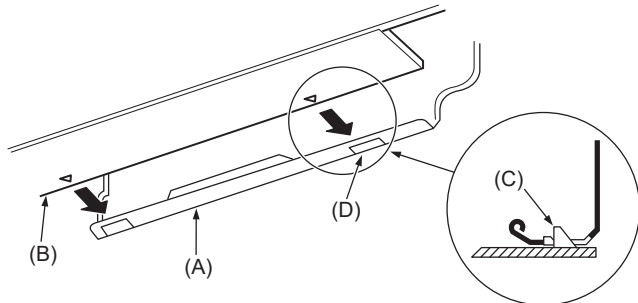

Fig. 3-15
3. While inserting the refrigerant piping and drain hose into the wall penetration hole (penetration sleeve), hang the top of the indoor unit to the mount board (1).
5. Fasten by pushing the bottom part of the indoor unit onto the mount board (1). (Fig. 3-15)
* Check that the knobs on the bottom of the indoor unit are securely hooked into the mount board (1).
- (A) Mount board (1)
- (B) Indoor unit
- (C) Hook
- (D) Square hole